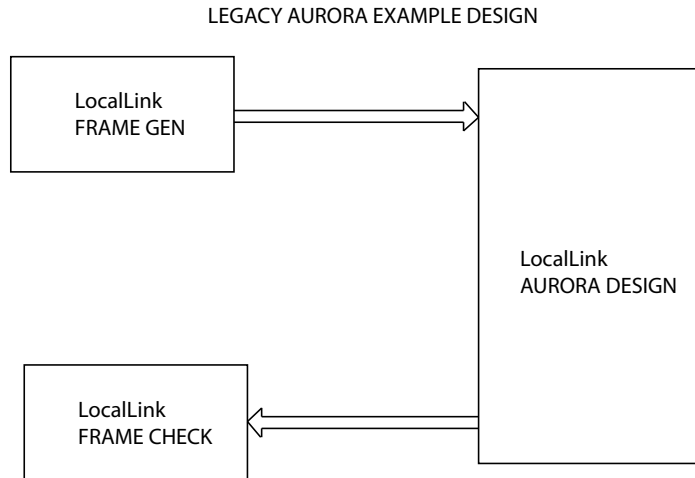
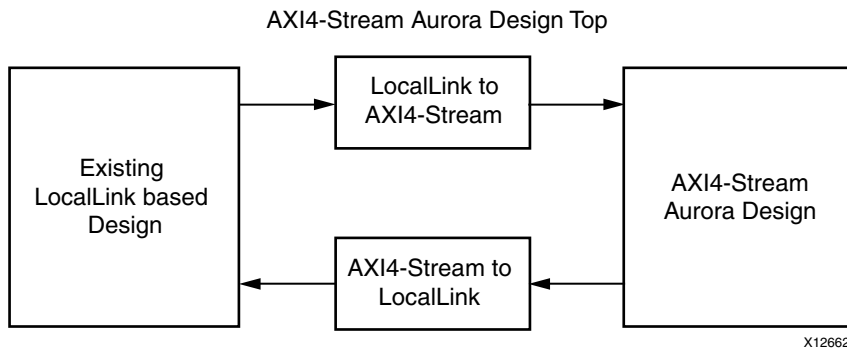

Figure B-1: Legacy Aurora Example Design
Figure B-2: AXI4-Stream Aurora Example Design
Figure B-1 shows an example Aurora design using the legacy LocalLink interface. Figure B-2 shows an example Aurora design using the AXI4-Stream interface.
2. See Figure B-2, page 94 for the emulation of a LL Aurora core from a AXI4-Stream Aurora core.
5. Connect the shim and AXI4-Stream Aurora design as shown in Figure B-2, page 94.